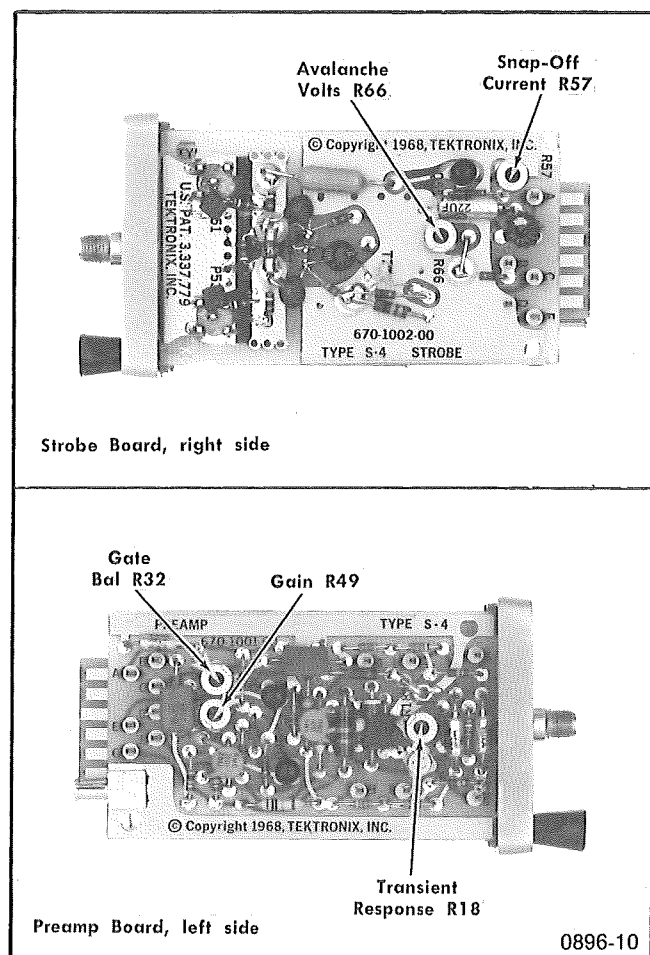

Figure 4-4. Type S-42 internal control locations.
c. Set Avalanche volts control R66 (see Fig. 4-4) and Snap-Off Current control R57 to midrange.